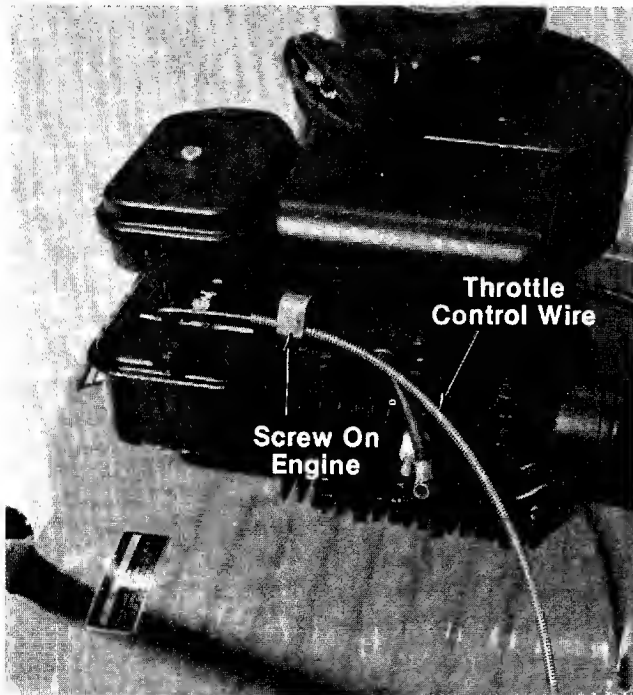

FIGURE 11 Model 020 Only
1. Loosen, but do not remove, screw securing throttle control wire assembly at engine. See figure 11.